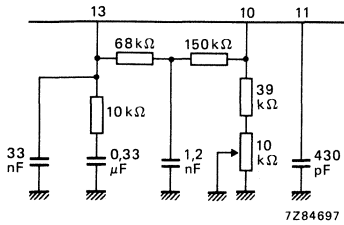

Fig. 2 PLL-filter for $\alpha_2 = 70$ dB at $V_p = 15$ V (see also Fig. 1).
3. PLL-filter for reduced intermodulation (α_2); see Fig. 2.